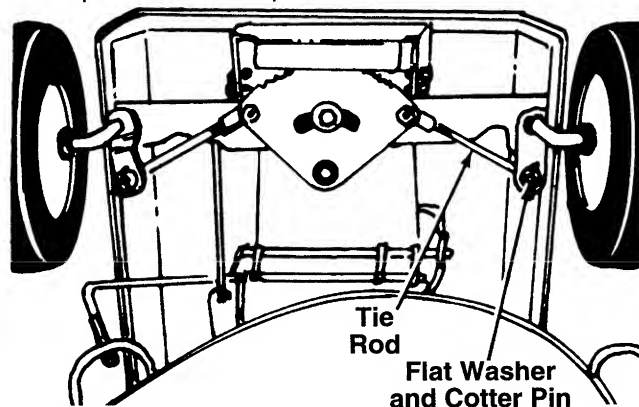

**FIGURE 21.**
### **BRAKE ADJUSTMENT (See Figure 21)**
**NOTE:** Your brake may be equipped with a castle nut and cotter pin instead of the lock nut shown in figure 21.
**NOTE:** Figure 21 is shown with the unit tipped up on rear wheels for clarity only.